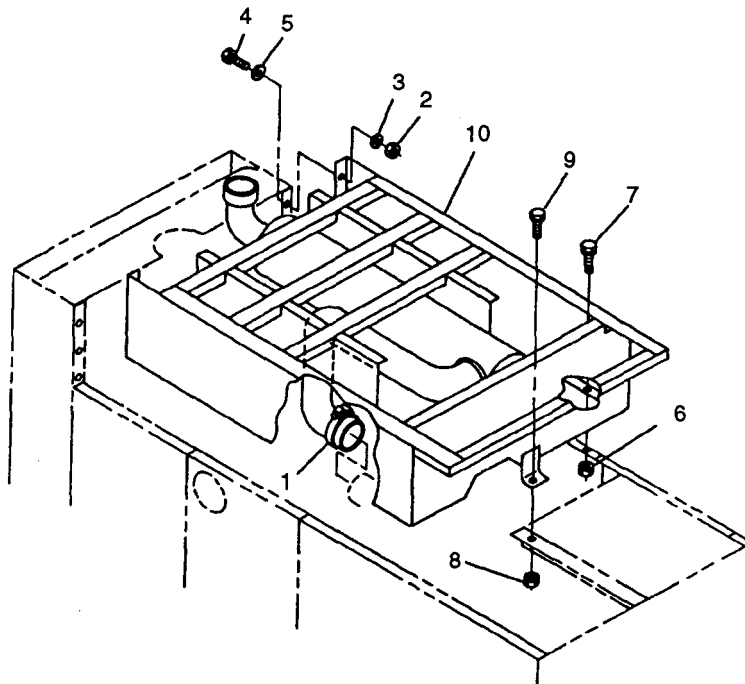

FIGURE 3-4. Top Housing Section Assembly
- m. Remove exhaust pipe clamp (1, FIGURE 3-4) at turbocharger outlet.
- n. Remove nuts (2), lockwashers (3), flat washers (5) and bolts (4) securing top housing section (10) to front housing.
- o. Remove assembled nuts (6) and bolts (7) securing top housing section (10) to rear side panels.
- p. Remove assembled nut (8) and bolt (9) securing top housing section (10) to output box angle.
- q. Using a lifting device, remove top housing section assembly (10) from generator set.